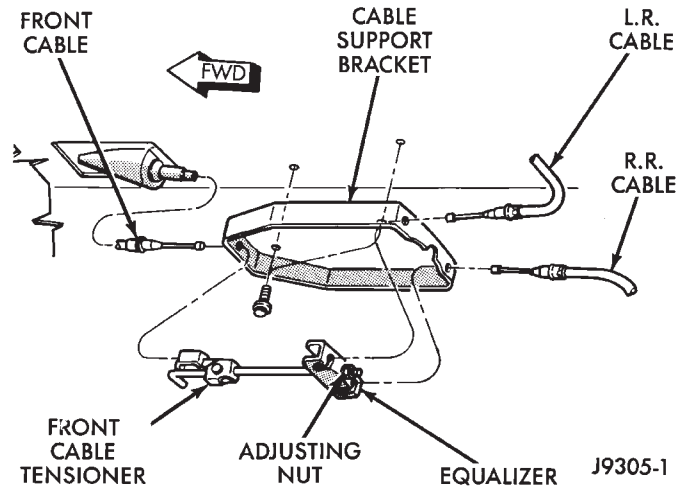

Fig. 5 Parking Brake Adjustment Components
(1) Check and adjust rear drum brakeshoes if necessary. Refer to procedure in this section.
(2) Fully apply parking brakes.
(3) Raise vehicle on hoist.
(4) Mark position of adjusting nut on threaded end of cable tensioner (Fig. 5). Use chalk or grease pencil to mark position of nut.
(5) Tighten adjusting nut approximately 13 mm (1/2 in.) farther down threaded end of cable tensioner.